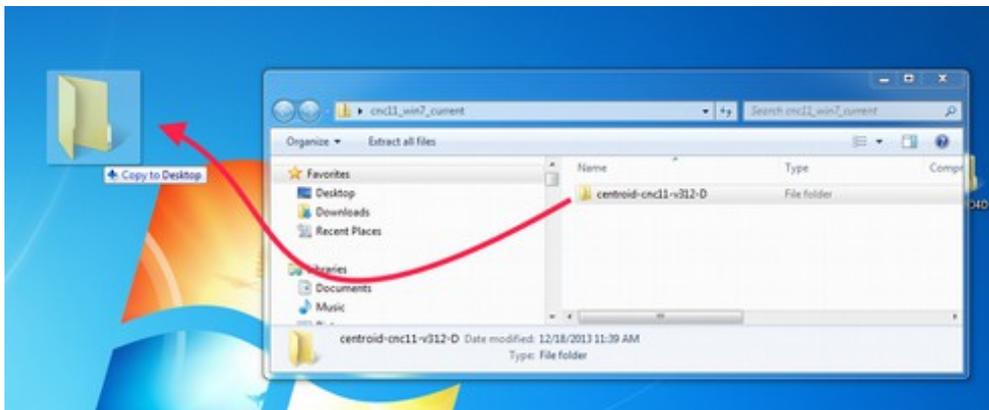

Figure 3.2.1
3. **Drag the installation folder from the compressed file to your desktop.** The folder in this example is called centroid-cnc11-v312-D, your version maybe newer but the name will be the same other than the “v312” which signifies the CNC11 version number as shown below in Figure 3.2.1.